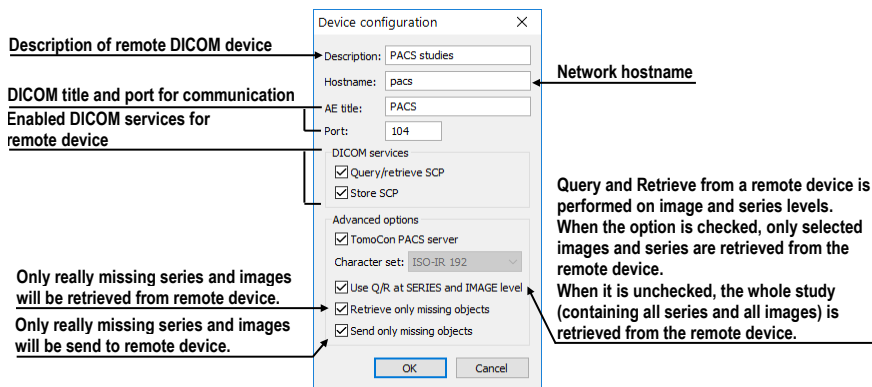

Figure 83 – Device configuration dialog
- To add a new DICOM device as a separate item, click **Add device** button. The **Device configuration** dialog (Figure 83) will be displayed to enter the required informations about a device.
- To add a new DICOM device into a previously defined group, select the group in the list and click **Add device**. The **Device configuration** dialog (Figure 83) is displayed to enter the required information about a device.
- To modify a group or a DICOM device, click **Configure...**. The **Device configuration** dialog is displayed where the information concerning a group or a device can be modified (see Figure 83).